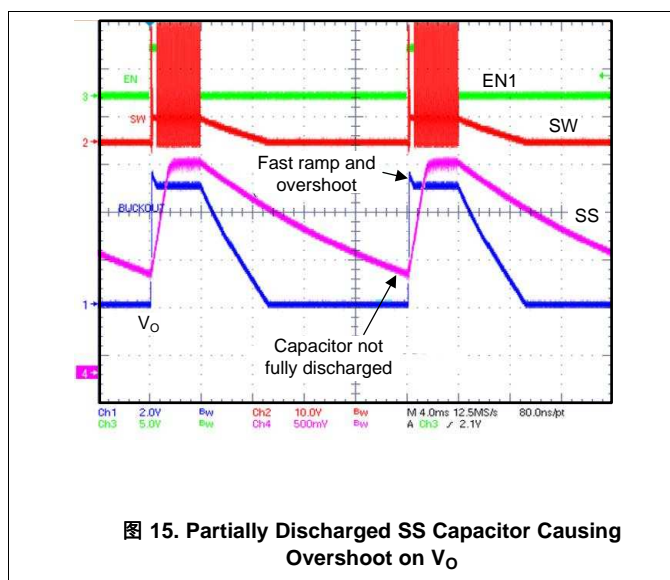

图 15. Partially Discharged SS Capacitor Causing Overshoot on VO
- VIN-overshoot (up to 1 V was observed, see 图 15)